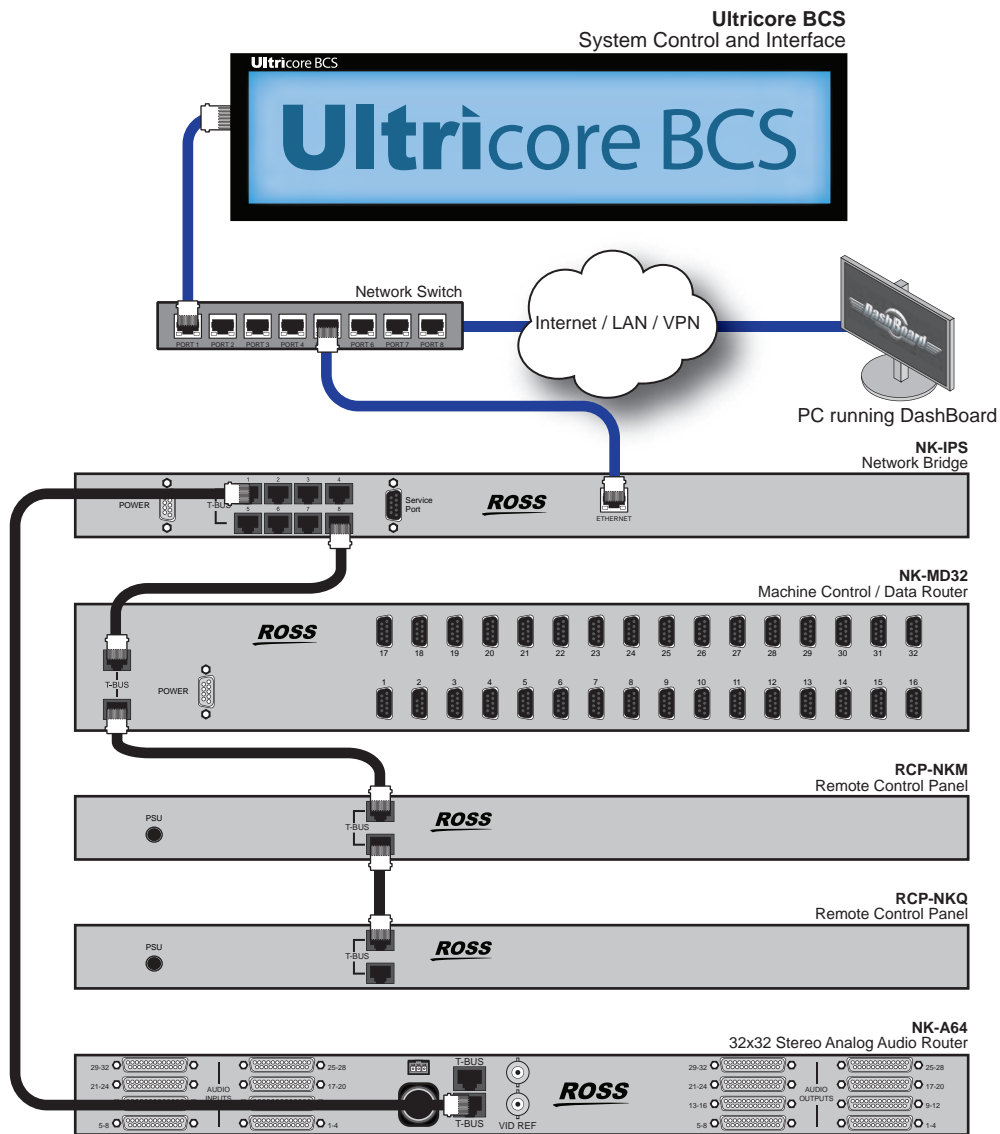

Figure 32 Connection Example with an NK-IPS
**Figure 32** provides an example of a routing system with an Ultracore BCS, an NK-IPS, and several Ross NK devices. Communication between the NK-IPS and the Ross NK devices is over T-Bus, while the Ultracore BCS communicates with the NK-IPS via Ethernet.